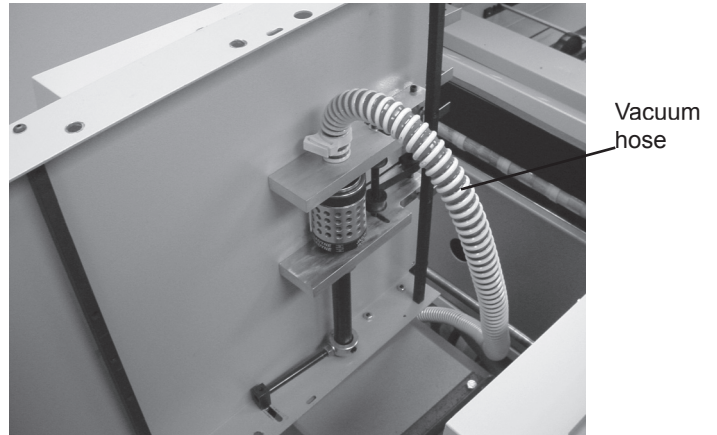

Fig 6
2. Attach vacuum hose to the feed table, then set table into place (Fig 6).